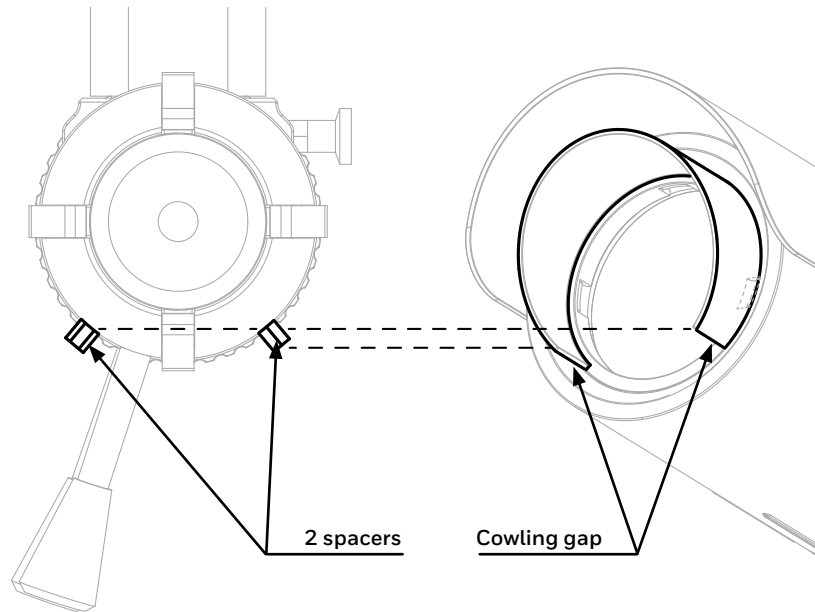

Figure 33. Aligning spacers to cowling gap
- Align the Alignment Scope's **two spacers** with the instrument's **cowling gap** (see Figure 33).